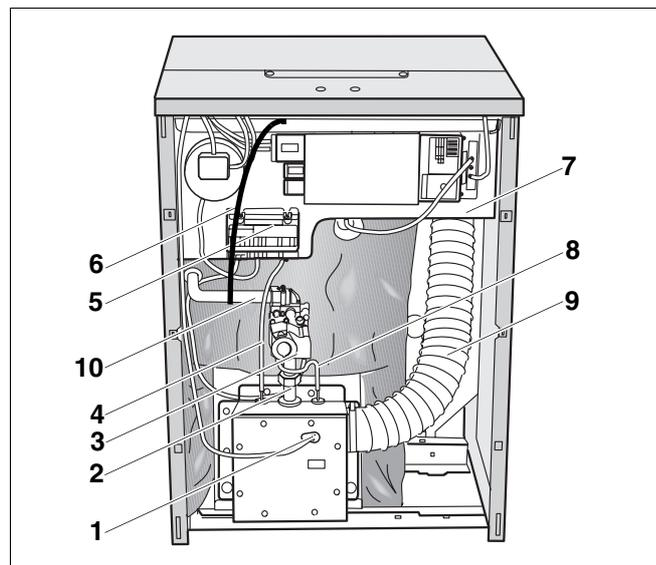

Fig. 49 Front view
10. Release air supply hose (→ Fig. 49) and pull off burner box.